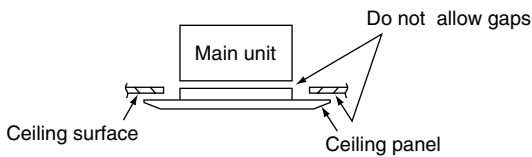

Fig. 9-9
(4) Check that the panel is attached tightly to the ceiling.
- At this time, make sure that there are no gaps between the unit and the ceiling panel, or between the ceiling panel and the ceiling surface. (Fig. 9-9)